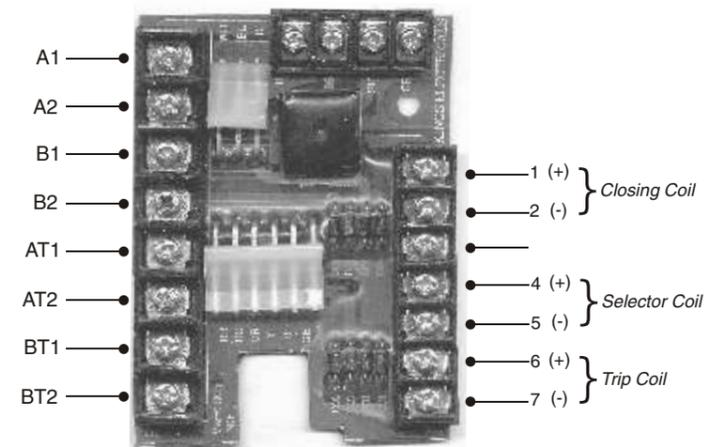

Fig 3. Terminal nomenclature for Printed Circuit Board (PCB)
- a. In case of closure towards source-II, selector coil 'SC' needs to be energized prior to the closing coil for which a similar rectified voltage (approx 230V DC) should appear across terminals 4 & 5 (Refer Fig. 3) of the PCB.
- c. The energizing of selector coil further results into closing of limit switch (LS) next to it which in turn initiates the rectified output for closing coil at terminals 1 & 2. Balance of diagnosis is identical to previous fault section related to ATS not closing towards source-I as output from terminals 1 & 2 energizes the closing coil for the ATS to close this time to source-II (since the selector coil is already energized).
- a. DC (approx 230V) should be available across terminals 1 & 2 of PCB (Refer Fig. 3). If the ATS is not getting energized to close position in spite of the voltage being available across the terminals: Check the coil for being open/burnt by checking its continuity. Coil should be replaced if open/burnt.
- b. If PCB output is not ok across terminals 1 & 2, check for any loose terminations/wiring or continuity across auxiliary switches (AX-BX) as well as limit switches (LS). Else PCB shall need to be replaced.